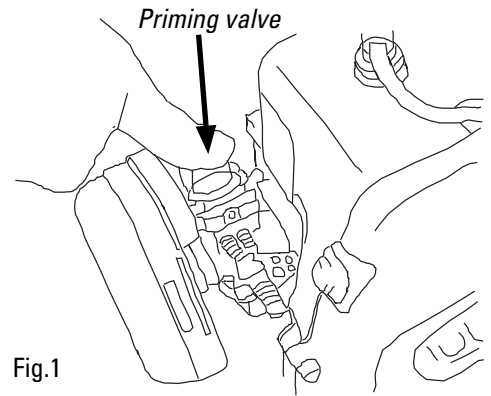

Fig.1
- ▶ Push the priming valve several times until fuel is consistently flowing out the overflow tube (Fig. 1).